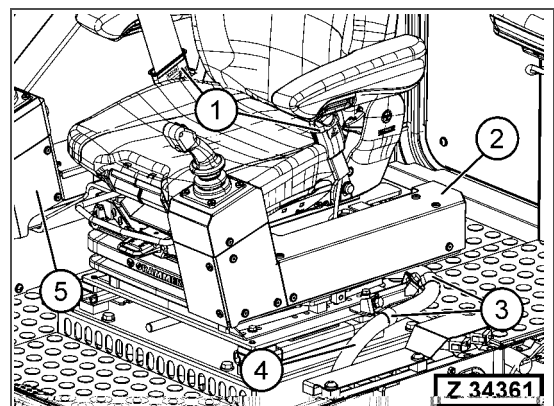

Fig. 3-337
6. Disassemble the operator's seat belt (Fig. 3-337, Pos. 1), refer to section 3.6.5.7 on page 3-284.
7. Disassemble the control carrier left (Fig. 3-337, Pos. 2), refer to section 3.6.5.3 on page 3-280.
8. Disassemble the control carrier right (Fig. 3-337, Pos. 5), refer to section 3.6.5.5 on page 3-282.
9. Disassemble the clamps (Fig. 3-337, Pos. 3) to remove the wiring harness (Fig. 3-337, Pos. 4) from the seat frame.